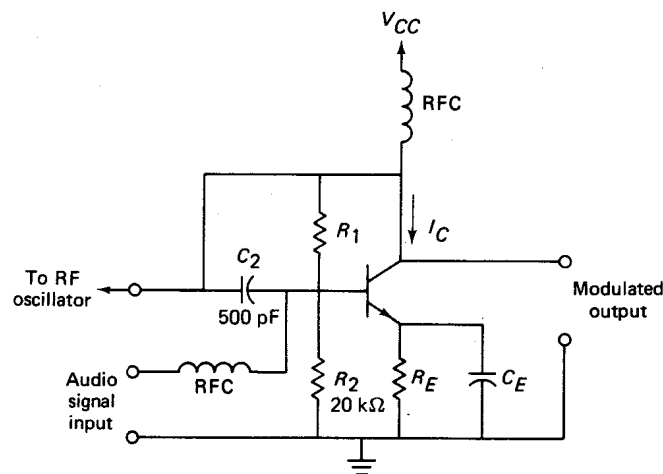

Fig. 4-17
- 4.55 The input resistance of the transistor shown as part of the transistor reactance modulator of Fig. 4-17 is  $450\ \Omega$  while the beta of the transistor is 80. What value of capacitance does this circuit present to the tank it is placed in shunt with? If the beta of the transistor swings between 60 and 100, what are the lower and upper values of capacitance presented by this circuit? *Ans.*  $39.11\ \text{nF}$ ;  $29.33\ \text{nF}$ ,  $48.89\ \text{nF}$
- 4.57 What new values of equivalent capacitance are presented by the circuit of Fig. 4-17 if the transistor is replaced with one whose beta is 90 and swings between 75 and 105? The input resistance of the replacement transistor is  $1500\ \Omega$ . *Ans.*  $41.85\ \text{nF}$ ,  $34.88\ \text{nF}$ ,  $48.83\ \text{nF}$
- 4.58  $R_2$  and  $C_2$  of Fig. 4-17 are replaced with a resistor of  $16\ \text{k}\Omega$  and a capacitor of  $150\ \text{pF}$ . The transistor to be used with this reactance modulator has a beta that swings between 35 and 60. The transistor has an input resistance of  $1200\ \Omega$ . Calculate the lower and upper values of capacitance that are reached by this modulator.